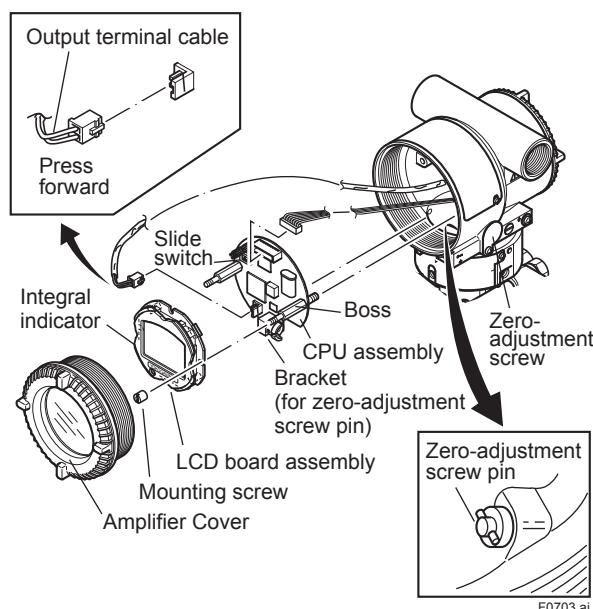

Figure 7.3 Removing and Attaching LCD Board Assembly and CPU Assembly
This subsection describes the procedure for replacing an integral indicator. (See figure 7.3)
This subsection describes the procedure for replacing the CPU assembly. (See figure 7.3)
- 2) Turn the zero-adjustment screw to the position (where the screw head slot is horizontal) as shown in figure 7.3.